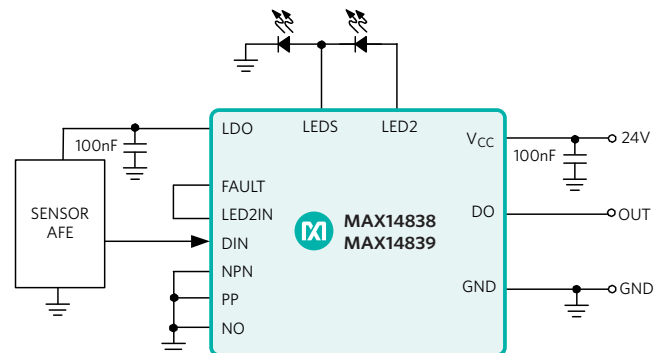

Figure 2. 24V Pin-Configurable Industrial Sensor Output Driver
Binary sensors have only two states: On or Off. Examples of binary sensors are pressure switches, temperature switches, through-beam photoelectric sensors, proximity sensors, and pushbuttons. Binary sensor output drivers, such as the **MAX14838/MAX14839** (Figure 2), are 24V/100mA drivers optimized for use in industrial sensors. These devices integrate the high-voltage (24V) circuitry commonly found in industrial sensors, such as a configurable or pin-selectable PNP/NPN/push-pull driver and an integrated linear regulator that meets common sensor power requirements. The output driver interfaces between the sensor or sensor microcontroller unit (MCU) and the digital input (DI) module of the PLC.